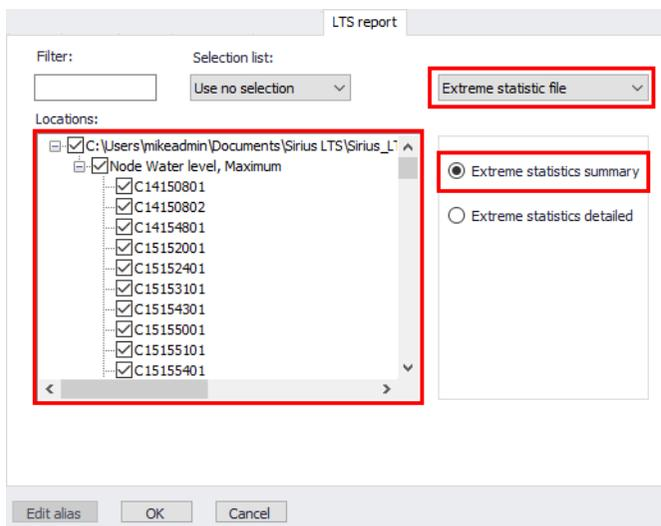

Figure 19.63 LTS extreme event statistics summary report configuration
- Choose to generate a report with the ‘Extreme statistics file’ from the dropdown menu on the upper right side of the page (Figure 19.63).
- Select the items and locations which shall be included in the report (Figure 19.63). Note that relevant items are offered on the Locations panel only if the appropriate LTS result file has been activated for the result document creation.